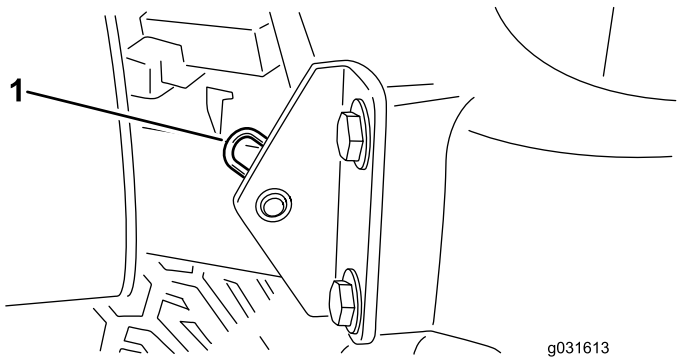

Figure 44
2. Remove the hairpin cotter securing the hood pivot to the mounting brackets (Figure 44).